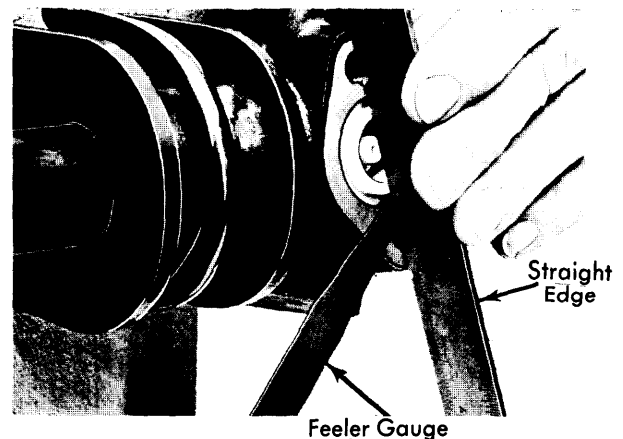

Fig. 1 Measuring Rack Damper Piston End Play
3) Place rack damper piston in housing without "O" ring or spring. Using straight edge and feeler gauge, measure end play between end of piston and housing (see Fig. 1). Measure thickness of gasket and calculate shim thickness required to obtain a total thickness, between gasket and shim, of .001-.006" (.02-.15 mm) greater than the measured piston end play to obtain correct preload. Install spring and "O" ring in piston, install shims, gasket and cover.